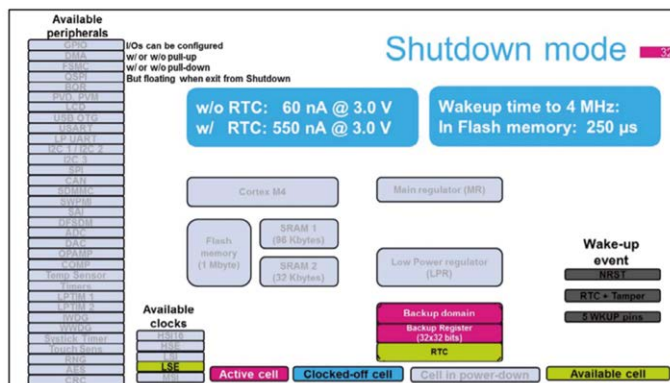

Figure 15.9: Shutdown mode.
**Shutdown mode:** this is the lowest power mode (Figure 15.9) with only 30 nA at 1.8 V. This mode is similar to Standby mode but without any power monitoring: the brown-out reset is disabled and the switch to VBAT is not supported in Shutdown mode. The 128-byte backup registers are retained in Shutdown mode. The CPU exits from the Shutdown mode by WKUP pin rising edge, RTC alarm, or external reset.